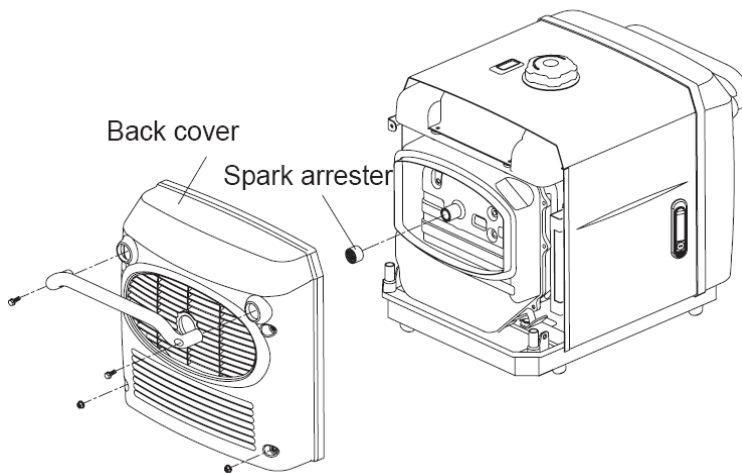

Fig. 19 Disconnection of spark arrester
7.5 Spark arrester maintenance, See Fig.19